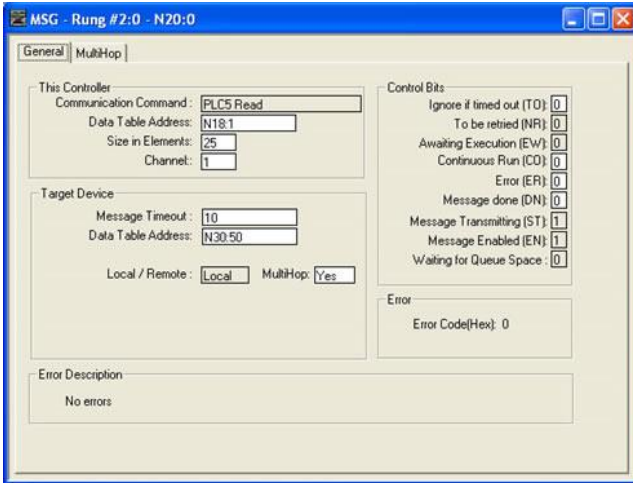

Figure 65: MSG Configuration, "General" Tab
- b) Upon hitting the <ENTER> key while in the “Control Block” entry box, the MSG Properties dialog box should appear (or it can be opened by clicking on the “Setup Screen” button at the bottom of the MSG instruction). Refer to Figure 65.